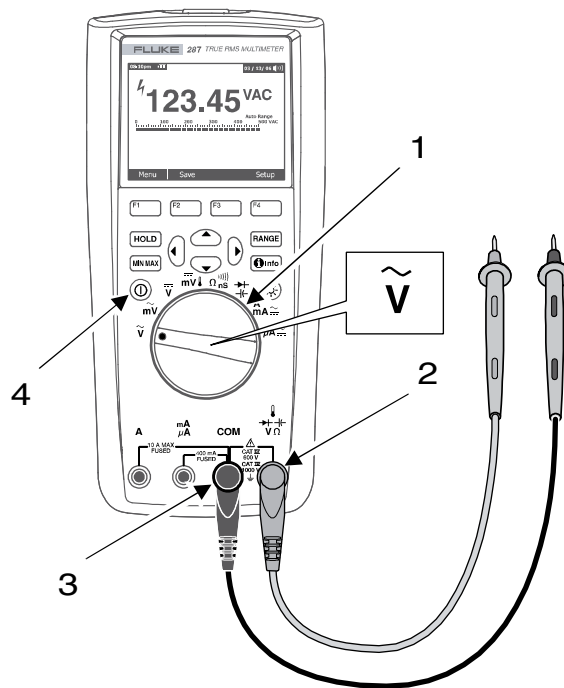

Figure 6. Decibels (dBV) Mode
1. Insert the black test lead into the COM terminal (Figure 6., Item 3).
2. Insert the red test lead into the volts/resistance terminal (Figure 6., Item 2).
3. Press the On/Off button (Figure 6., Item 4) to turn the multimeter on.
4. Position the rotary switch (Figure 6., Item 1) to the V~ (regular AC voltage checks) or to the mV~ (very low AC voltage checks) position.